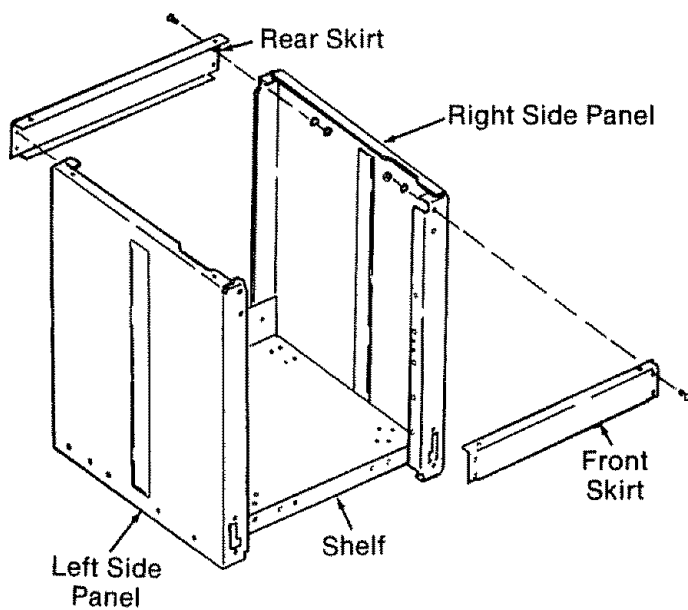

Fig. 21
20. Turn the *cabinet* right side up. Attach the *skirts* to the top of the *side panels*, with one on the front of the cabinet and the other on the back. (Figure 21)
21. Use eight truss head bolts, lockwashers, and hex nuts to hold the *skirts* in place. Hand-tighten. (Figure 21)